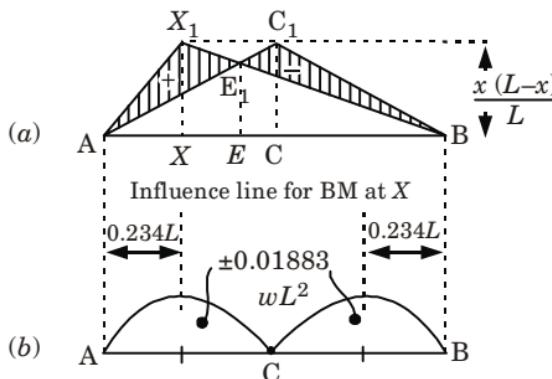

Fig. 5.18.2.
1. Fig. 5.18.2(a) shows the influence line diagram of bending moment at any section  $X$  of a three-hinged parabolic arch of span  $L$  and rise  $h$ .